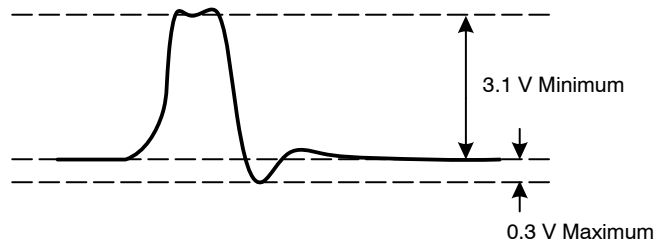

Figure 17. RG Clock Overshoot
2. Reset Clock Operation: The RG1, RG2, and RG3 signals must be capacitive coupled into the image sensor with a 0.01 μF to 0.1 μF capacitor. The reset clock overshoot can be no greater than 0.3 V, as shown in Figure 17, below: